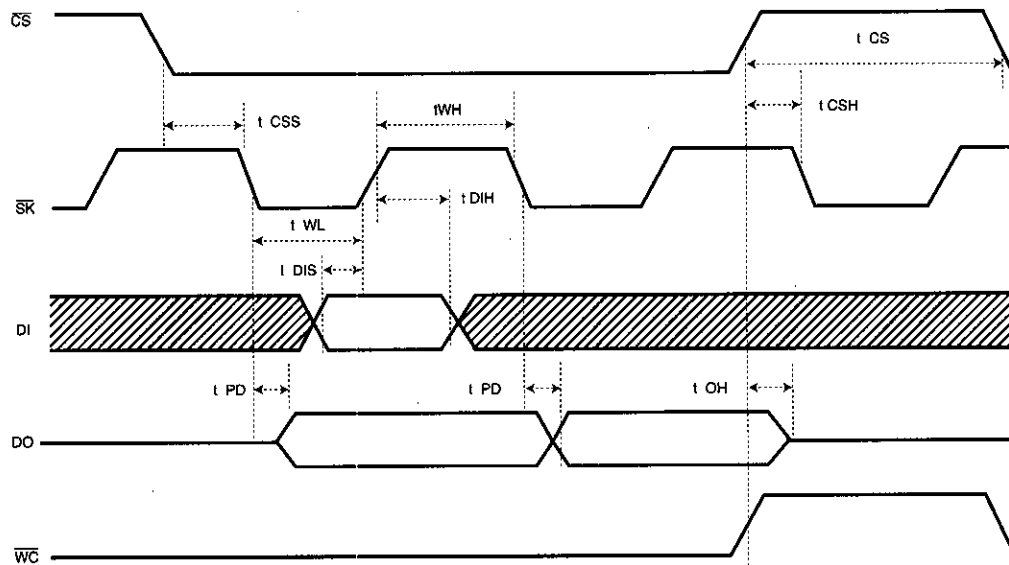

Fig.1
- After the fall of the 16th clock pulse, 16-bit data is output from the DO pin in synchronization with the falling edge of the SK signal. (DO output changes at a time lag of tPD0, tPD1 because of internal circuit delay following the falling edge of the SK signal. During the tPD0 and tPD1 timing, the tPD time should be assured before data is read, to avoid the previous data being lost. See the synchronized data input/output timing chart in Figure 1.)